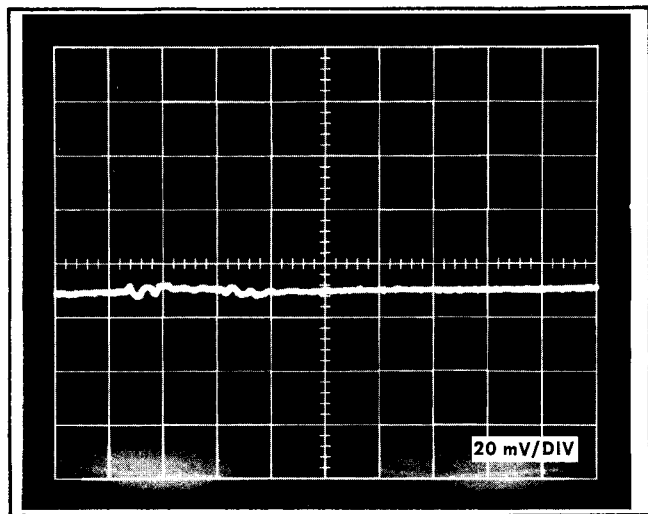

Fig. 6-6. Typical display of Trigger Kickout.
c. Set the TRIG SENSITIVITY control for a free-running trace and measure the amplitude of the pulse on the Indicator Oscilloscope, Fig. 6-6.